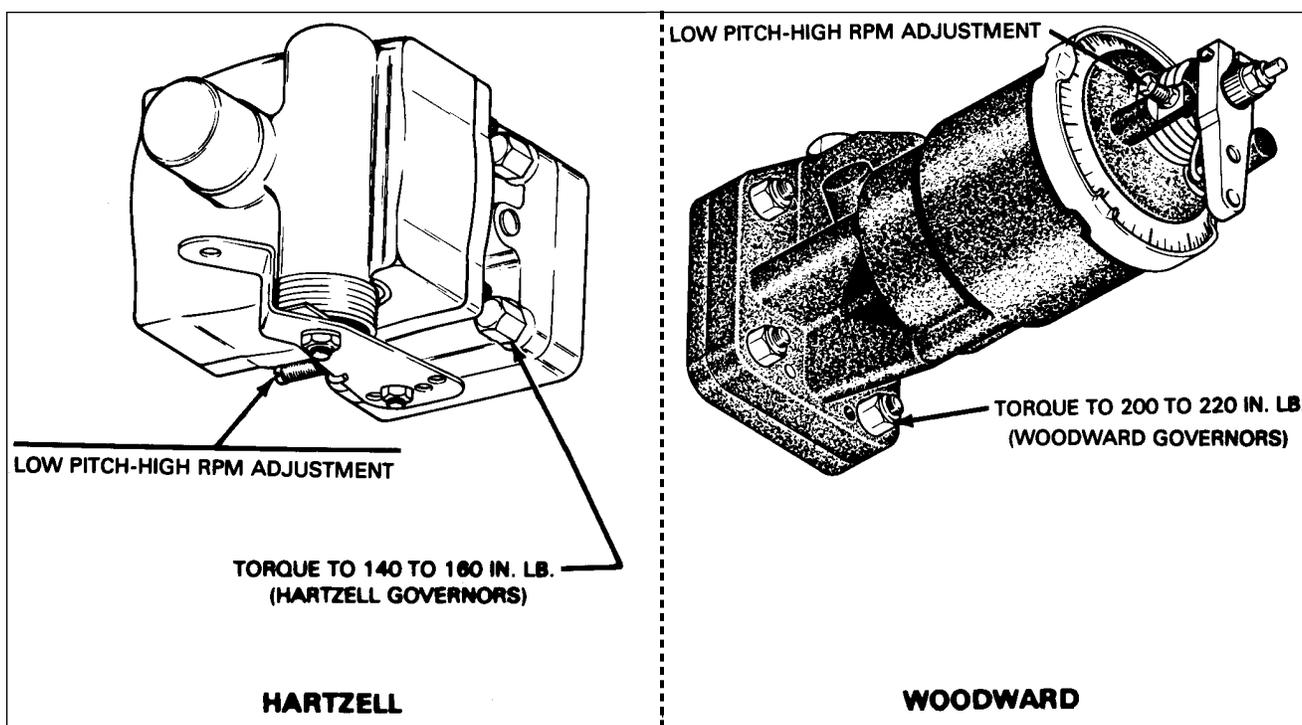

Figure 61-3. Propeller Governor
4. Tighten the mounting bolts evenly and tighten to a final torque as shown in Figure 61-3.
**RIGGING AND ADJUSTMENT OF PROPELLER GOVERNOR.** (Refer to Figure 61-3.)